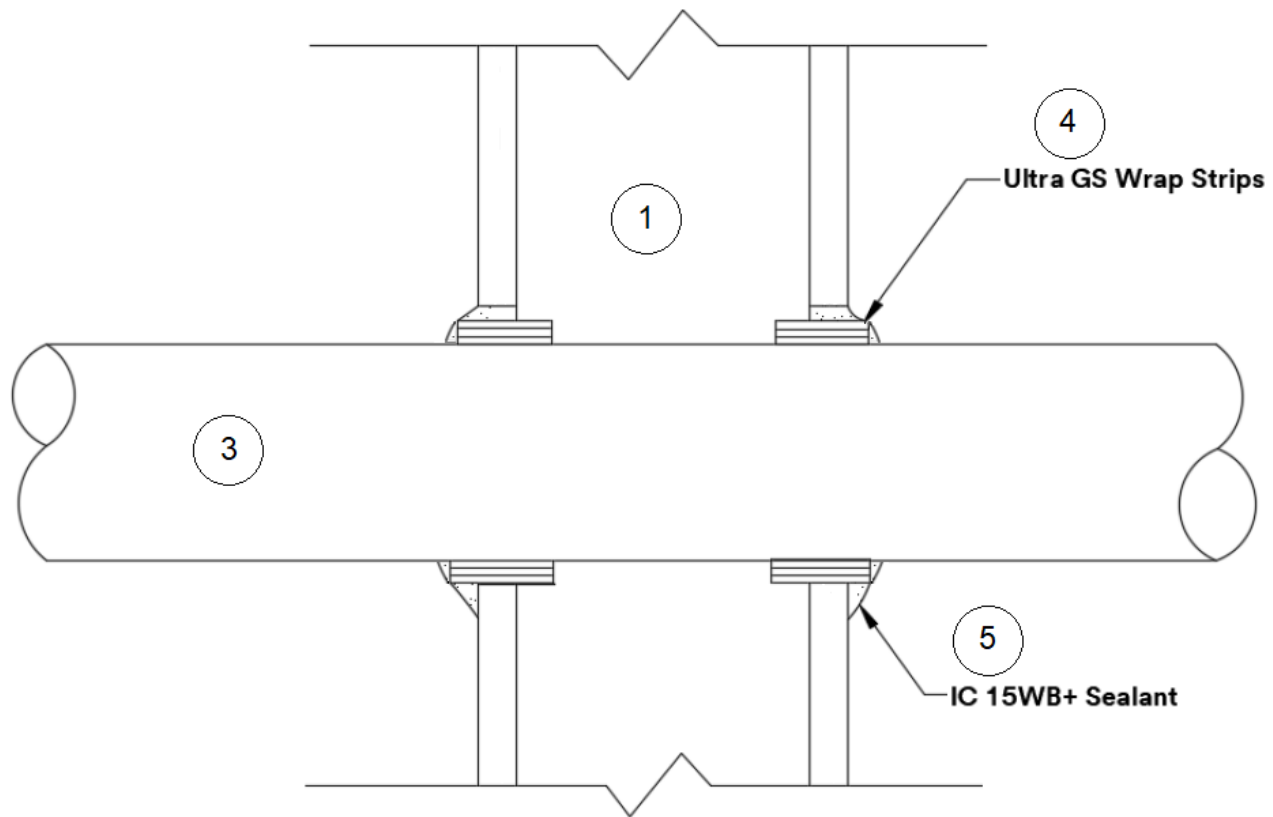

Figure 1. Firestop Detail
- 2. THROUGH-OPENING:** Refer to Figure 1. Create a 4 in. diameter through opening in the supporting construction (Item 1).